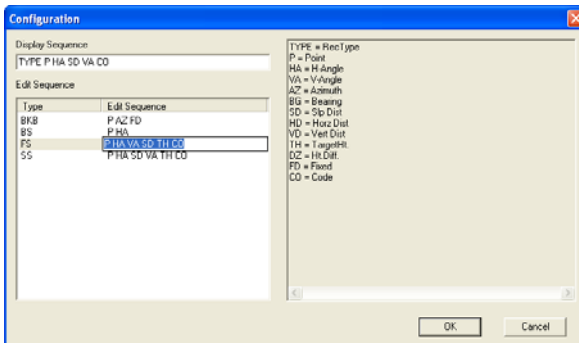

Figure 12-40. Using the Edit Sequence Panel
- Enter parameters in the *Display Sequence* field from the *Configuration* dialog box (Figure 12-40). However, it is easy to drag and drop the headers to their desired location using the *Hide Columns/Insert Columns* commands on the Context popup menu.